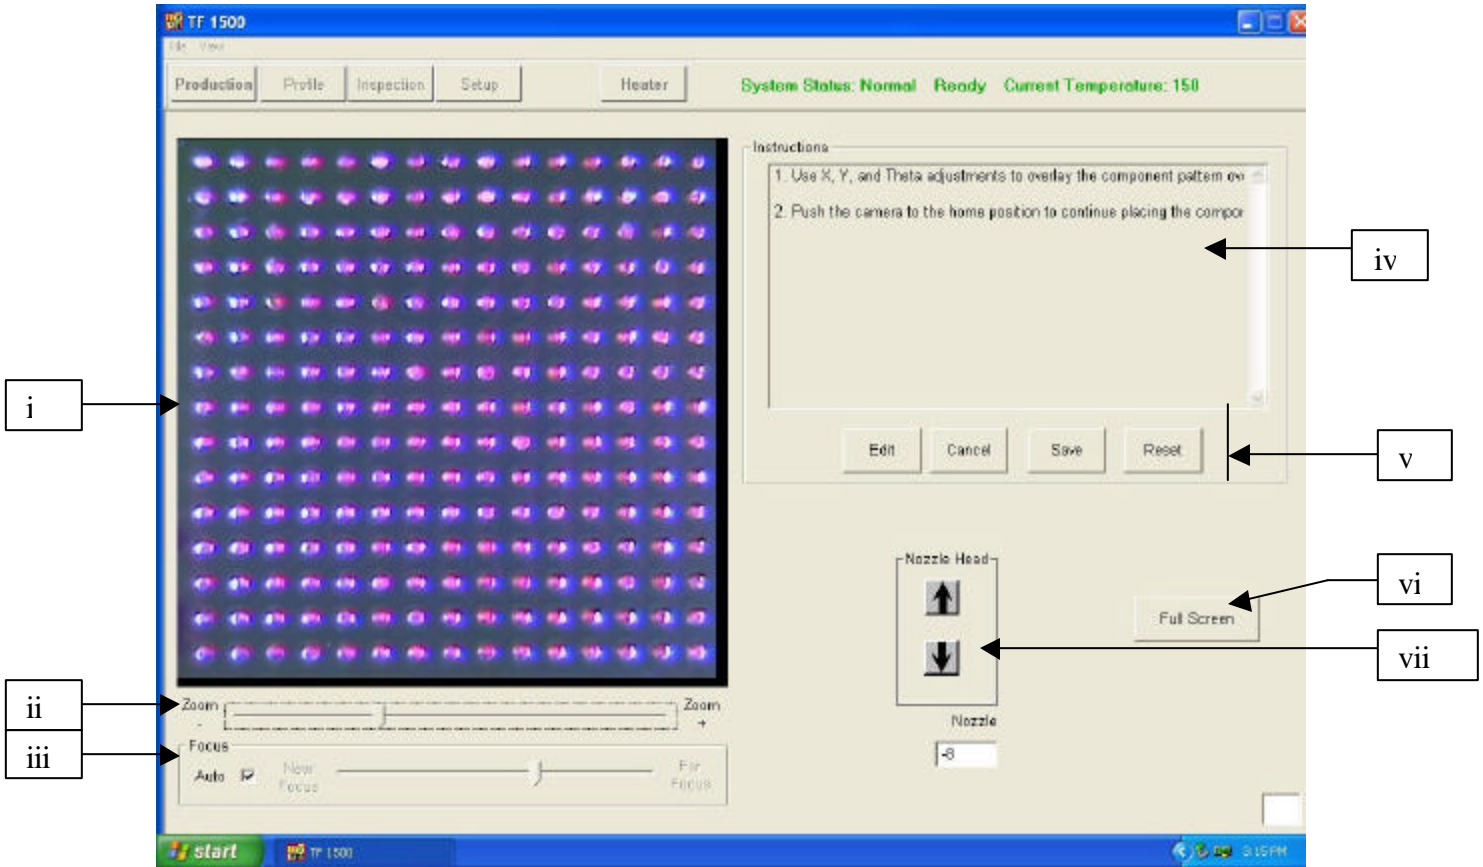

Figure 5
f. Alignment Screen Features (Figure 5)